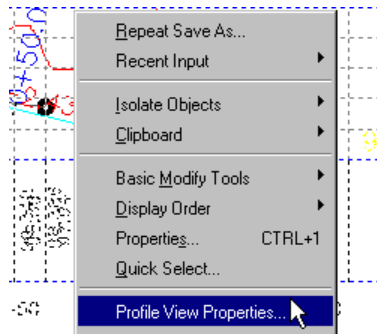

Figure 6-75 Choosing the **Profile View Properties** option
2. Choose **Profile View Properties** from the shortcut menu displayed, as shown in Figure 6-75. On doing so, the **Profile View Properties - Profile A** dialog box is displayed.